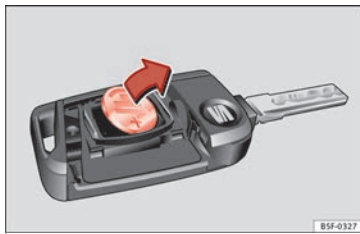

Fig. 136 Vehicle key: removing the battery.
- Extract the battery from the compartment using a suitable thin object **» Fig. 136.**
- Place the new battery in the compartment as shown **» Fig. 136**, pressing in the opposite direction to that shown by the arrow **» ①.**